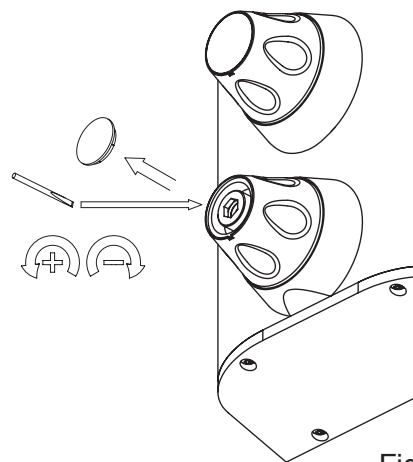

Fig.7
- 2.3.5 To adjust the set maximum temperature, remove the temperature control cap (prize plastic ones off using a small screwdriver; or unscrew the metal ones - Horne tool 23-5459 or nitrile gloves are helpful for grip) and adjust the small, slotted screw in the centre of the spindle. Adjust the screw anticlockwise to increase the temperature, clockwise to decrease the temperature. See Fig. 7.